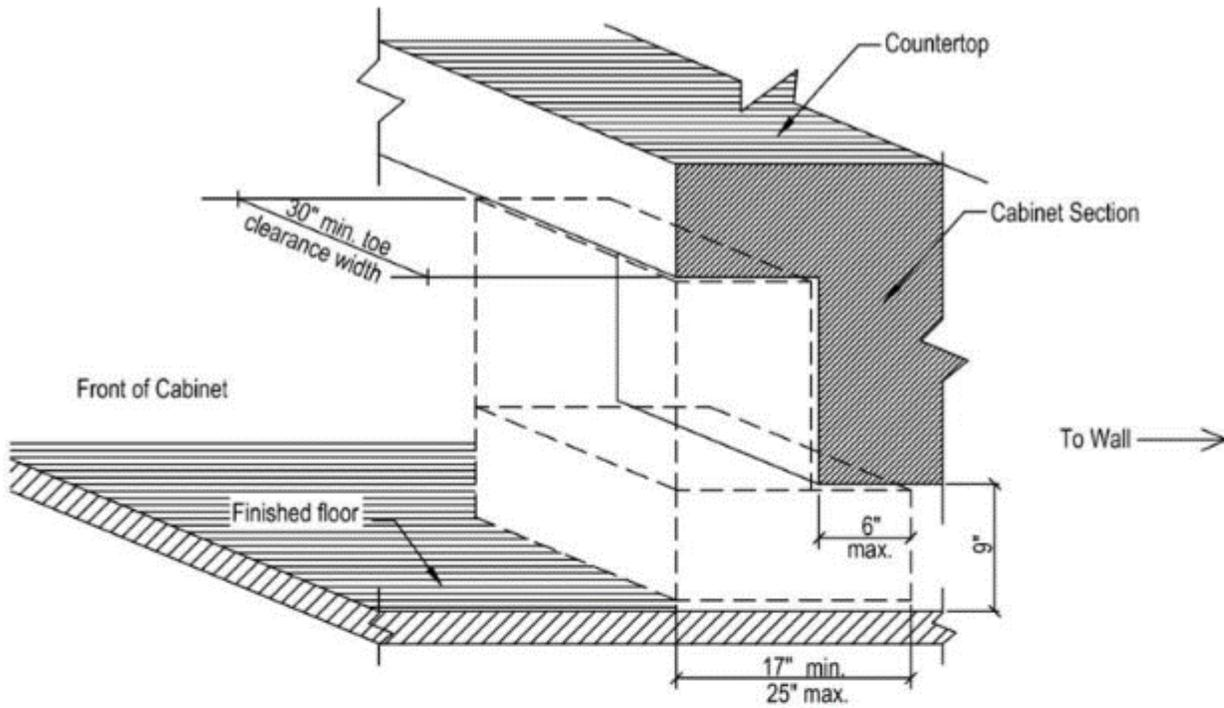

Figure 1: Toe Clearance
- An adjustable or replaceable 30 inches wide work surface at variable heights between 29 inches and 36 inches or fixed at 34 inches maximum with toe and knee clearance, as depicted by Figures 1 and 2, shall be provided. (ICC 1003.12.3.2) A clear floor space positioned for forward approach and centered on space must be provided for the work surface. Cabinetry is permitted under the work surface, provided the cabinet can be removed without removal or replacement of the work surface, the floor finish extends under such cabinet, and the walls behind and surrounding the cabinet are finished. (ICC 1003.12.3.1)
- A 30-inch by 48-inch clear floor space centered on sink and positioned for forward approach shall be provided. Cabinetry can be added, provided it can be removed without removal or replacement of the counter, the floor finish extends under the cabinet, and the walls behind and surrounding the cabinet are finished. (ICC 1003.12.4.1) Toe and knee clearances shall be provided per Figures 1 and 2. (ICC 306)